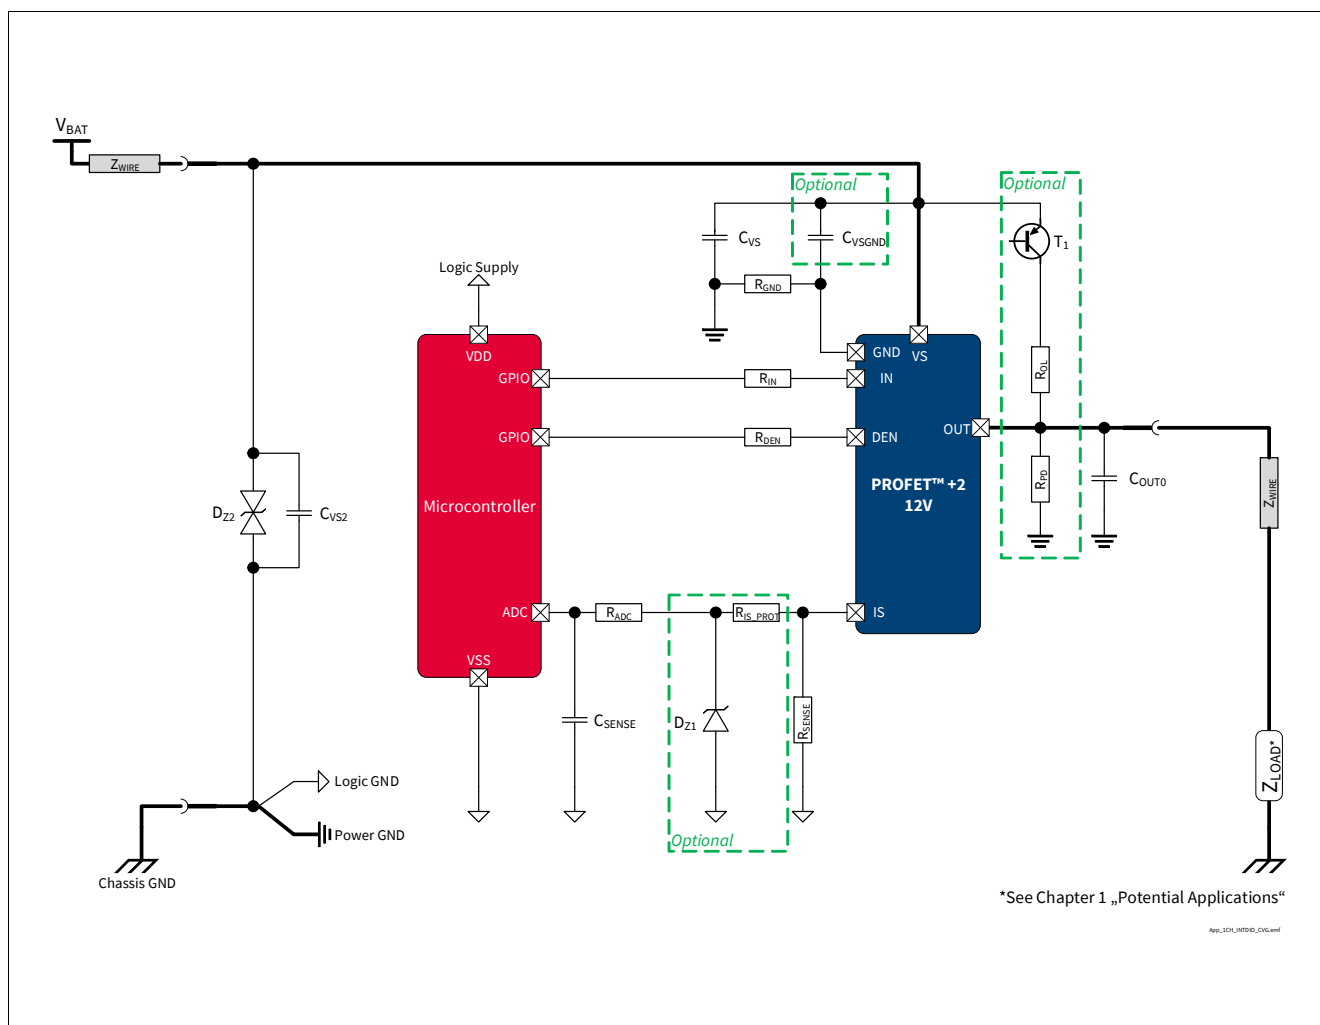

Figure 42 BTS7010-1EPA Application Diagram
1.02 , 2019-10-15	P_8.7.2.1, P_8.7.2.7, P_8.7.2.8 updated (added in Note or Test Condition: link to Figure 25) P_7.5.2.4, P_7.5.2.5 updated (added in Note or Test Condition: DEN = “low”; link to Figure 19) P_7.5.2.12 updated (added in Note or Test Condition: see Figure 21) P_8.7.2.6 updated (added in Note or Test Condition: see Figure 26) P_9.7.2.1 updated (added in Note or Test Condition: See Figure 34) P_9.7.2.6 updated (Min./Max.: -45%/+45% → -34.5%/+34.5%) P_9.7.2.9 updated (Min./Max.: -38%/+38% → -25.5%/+25.5%) P_9.7.2.12 updated (Min./Max.: -34%/+34% → -22.5%/+22.5%) P_9.7.2.15 updated (Min./Max.: -22%/+22% → -13.0%/+13.0%) P_9.7.2.17 updated (Min./Max.: -9%/+9% → -8.1%/+8.1%) P_9.7.2.19 updated (Min./Max.: -6%/+6% → -4.6%/+4.6%) P_9.7.2.21 updated (Min./Max.: -5%/+5% → -3.9%/+3.9%) P_7.5.2.11 updated (added in Note or Test Condition: see Figure 19) P_4.2.2.6 updated (Max.: 13.5 mJ → 17 mJ) Figure 1, Figure 42 updated Chapter 1 updated (or LED equivalent → or equivalent electronic loads (e.g. LED modules)) P_4.3.0.7 added Table 23 updated Chapter 5.1 updated (added: see Chapter 10 for the complete application setup overview)